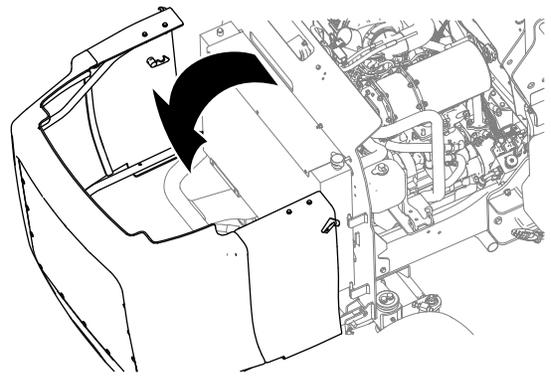

Figure 69
5. Unlatch and open the hood (Figure 69).